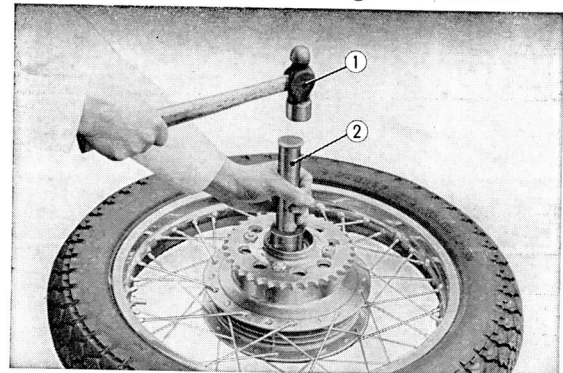

Fig. 4.100 Installing the bearing
① Rear wheel tire ② Wood spacer piece ③ Rear wheel rim
2. Grease the ball bearing and pack the rear wheel hub with grease. Insert the spacer and drive the bearing into place using a bearing installer. (Fig. 4.100)